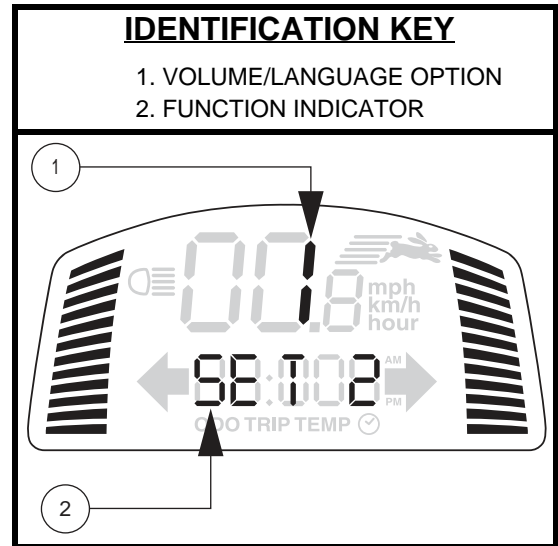

Figure 5. Volume Control Display
*NOTE: The turn signals are timed to shut off after 15 seconds. A warning beep will sound as long as the turn signal is on. See figure 5 for volume control.*
*NOTE: The 4-way flashers will flash and a warning beep will sound as long as the hazard lights are on. See figure 5 for volume control.*
The volume of the hazard lights, horn, low voltage, turn signals, and error message *beeps* can be increased, decreased, or turned off separately. See **figure 5**.